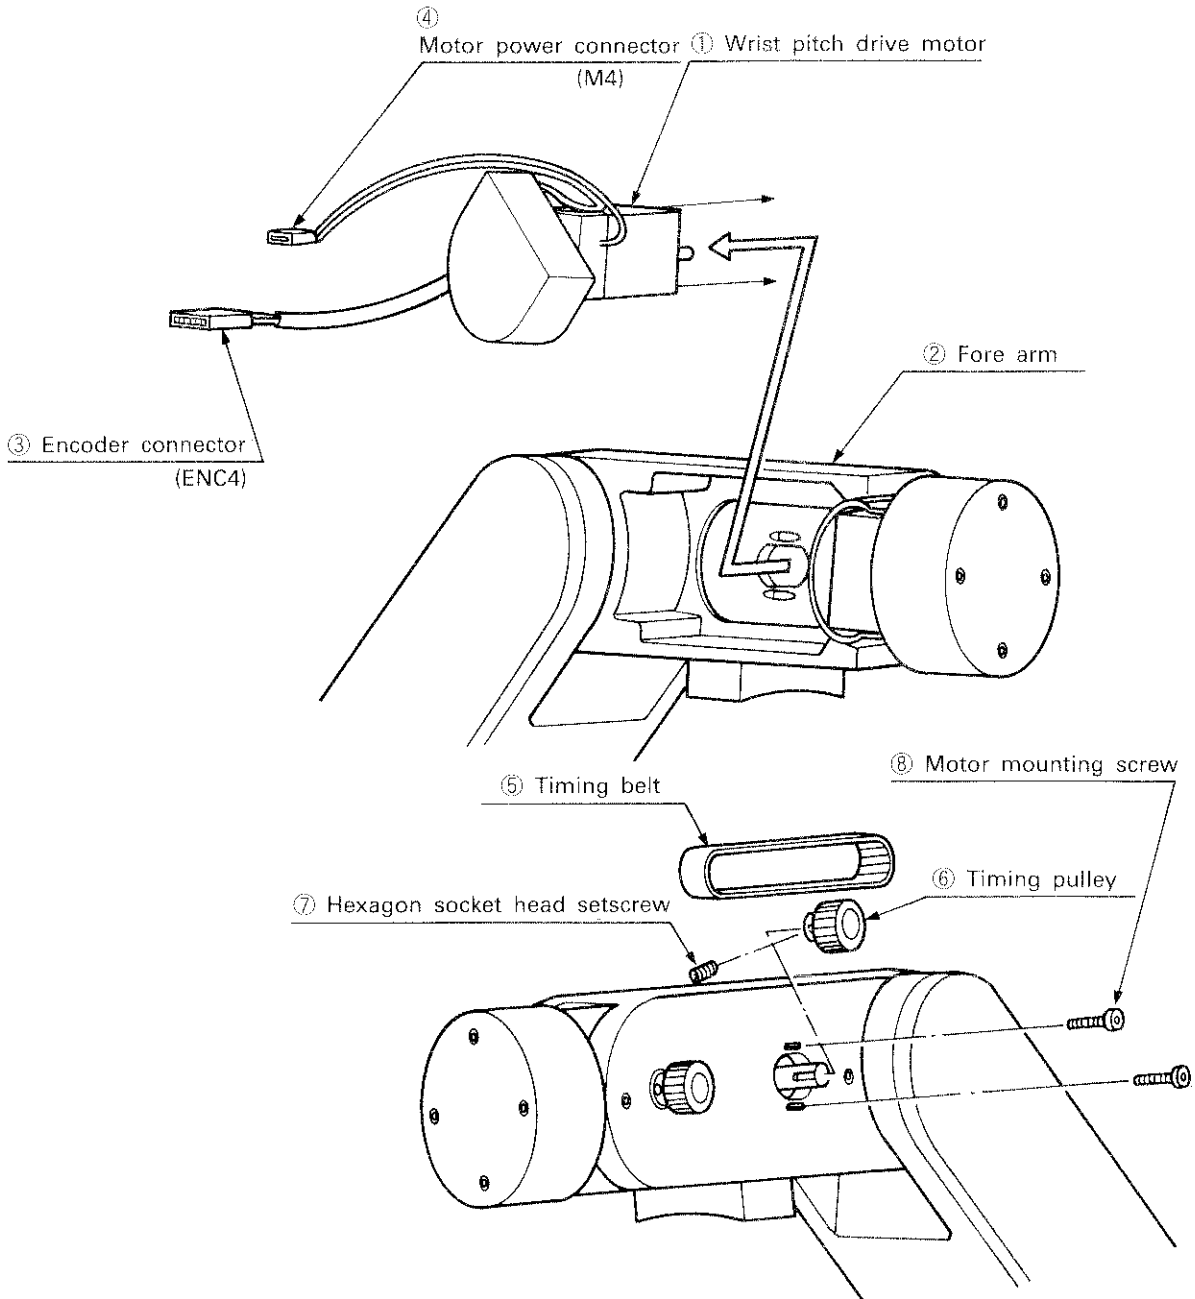

Fig. 4.3.6 Replacing the Wrist Pitch Drive Motor
- (1) Fig. 4.3.6 outlines the replacement procedure of the wrist pitch drive motor.
- (2) Remove the forearm cover and pulley cover by referring to 3.2 Removal of the Covers.
- (3) The wrist pitch drive motor ① is installed in the Forearm ②.
- (4) The J4-axis encoder connector ③ (connector name: ENC4) and J4-axis motor power connector ④ (connector name: M4) are connected to the motor inside the forearm. Remove these wires from the motor.
- (5) Remove the wrist pitch drive timing belt ⑤. (For procedure, see 3.4.4 Checking, adjusting, and replacing the wrist pitch drive timing belt.)
- (6) Remove the hexagon socket head setscrew ⑦ that secures the timing pulley ⑥ to the motor shaft and remove the timing pulley ⑥ from the motor shaft.
- (7) Remove the two motor mounting screws ⑧ that secure the motor ① to forearm ② and remove the motor ① from the forearm ②.
- (8) To install a new motor, reverse the order of removal.
- (9) After changing the motor, check the limit pulses in accordance with Section 3.7.